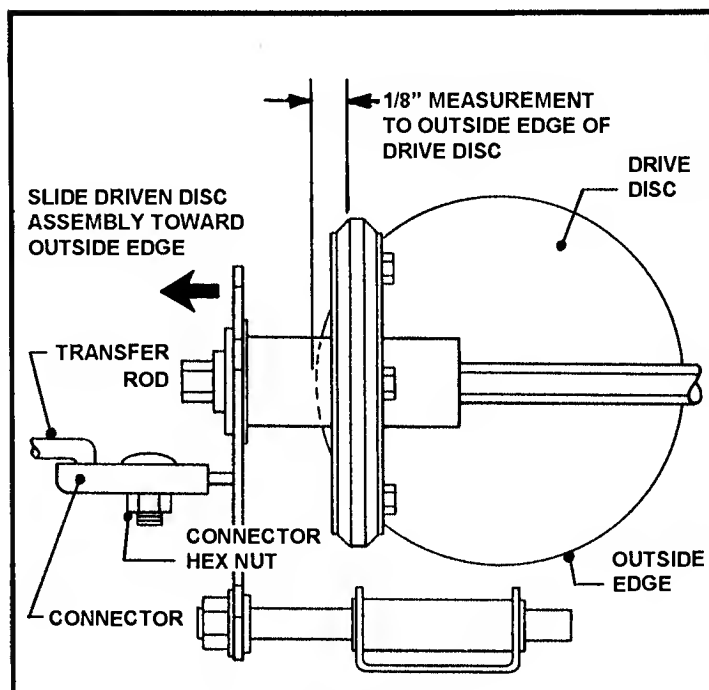

FIGURE 3.13a
3. Slide driven disc assembly over to 1/8" from outside edge of drive disc. Maintaining the 1/8" measurement, remove any looseness from the linkage. This can be done by holding the transfer rod and applying pressure to the left (as viewed from operators position). Then retighten the connector hex nut securely. See Figure 3.13a. Move shift rod to the number six speed position. Recheck the 1/8" measurement described previously. Reinstall driven disc spring to driven disc assembly.